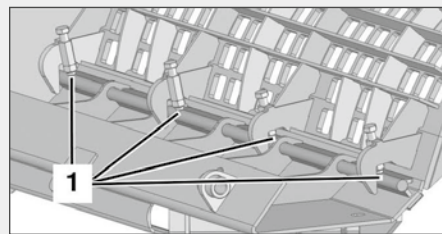

Fig. 11: Upper attachment of the replaceable rear basket grid on the replaceable rear basket grid holder
16. Fix the replaceable rear basket grid firmly with the four hex bolts (fig. 11/1) and hex nuts at the top of the replaceable rear basket grid holder.